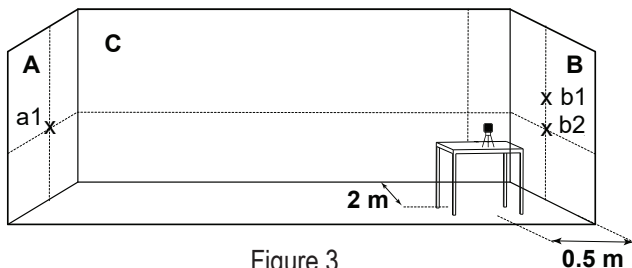

Figure 3
- 10) On wall **B**, mark the intersection point as **b2** (see figure 3).